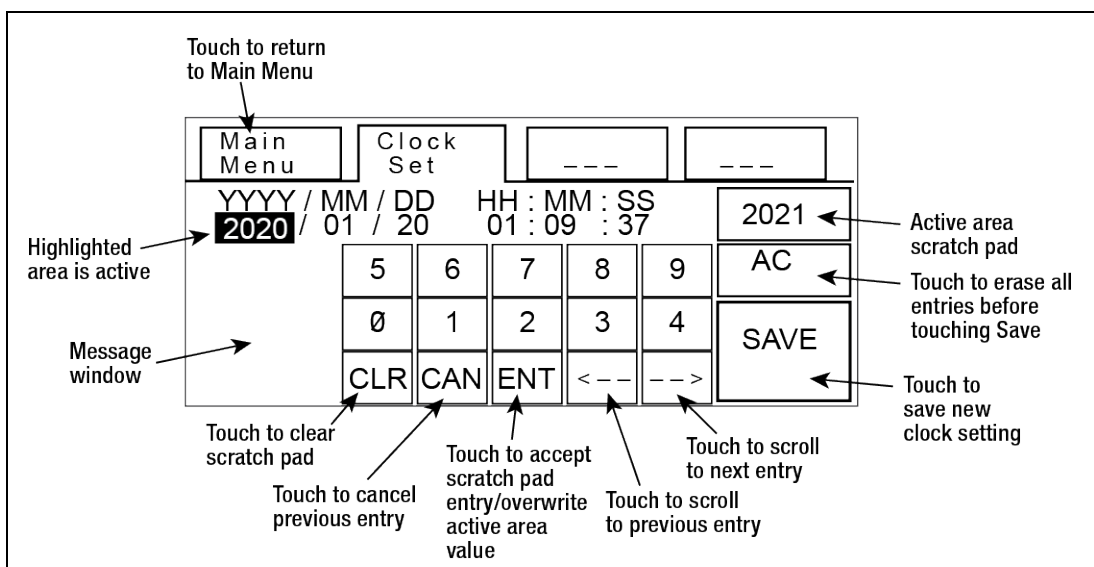

Figure 28. Clock Set Page
5. On the Clock Set page, observe the button functions in Figure 28 to reset the date and time. Touch the number buttons to enter date/time.